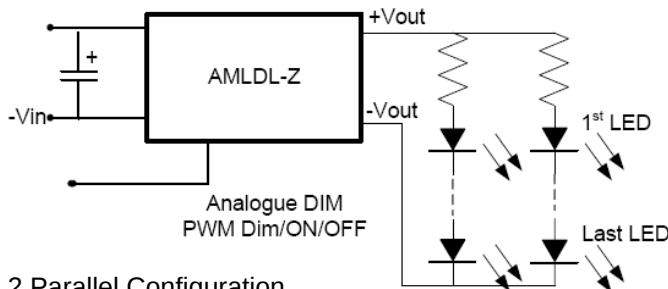

Figure 2 Parallel Configuration
Taking an example where 10 LEDs were used in a lamp, the LEDs could be arranged in 2 paralleled strings of 5 LEDs each. This configuration is illustrated below in Figure 2.
- This configuration also requires only the use a single output driver, while the output voltage is relatively low, comparable to that of the Parallel Strings configuration shown in Figure 2.